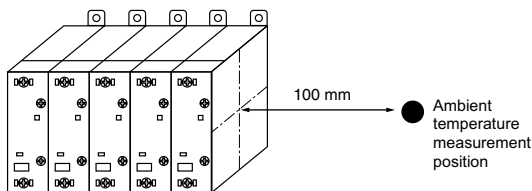
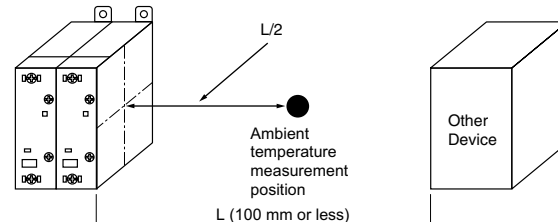
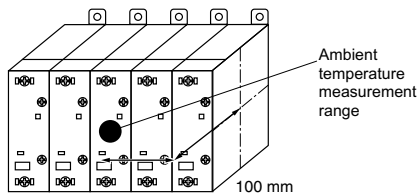

Figure 1: Basic Measurement Position for Ambient Temperature
Figure 2: Measurement Position when a Duct or Other Device is Present
Figure 3: Measurement Position when Side Temperature Cannot be Measured
- b. Refer to *Figure 1* for the measurement position. If there is a duct or other equipment within the measurement distance of 100 mm, refer to *Figure 2*. If the side temperature cannot be measured, refer to *Figure 3*.